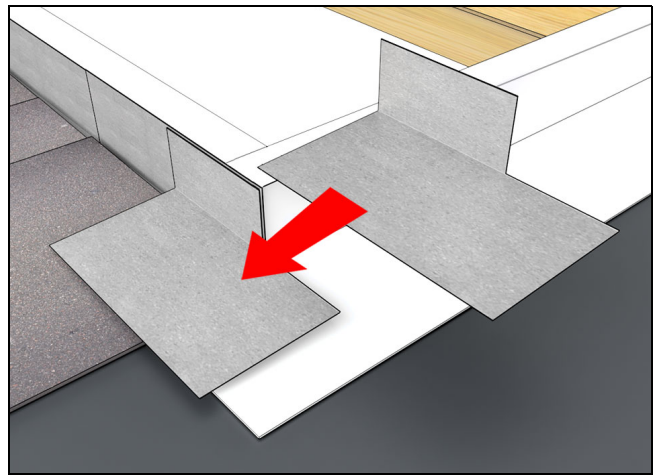

Figure 39
10. The last course is extended beyond the head jamb of 2"-4". Note: Vertical leg should be removed flush to head jamb. See Figure 39.